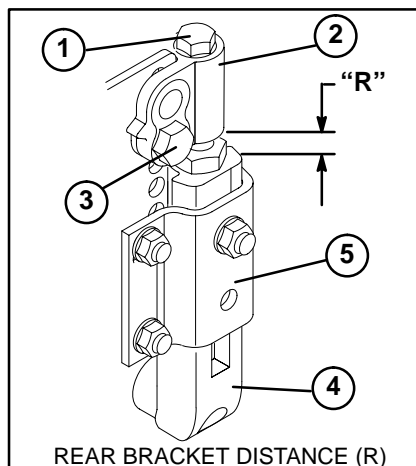

Figure 11
2. Select initial front roller bracket setting and rear roller position holes for desired height-of-cut (Fig. 11, 12 & CHART).